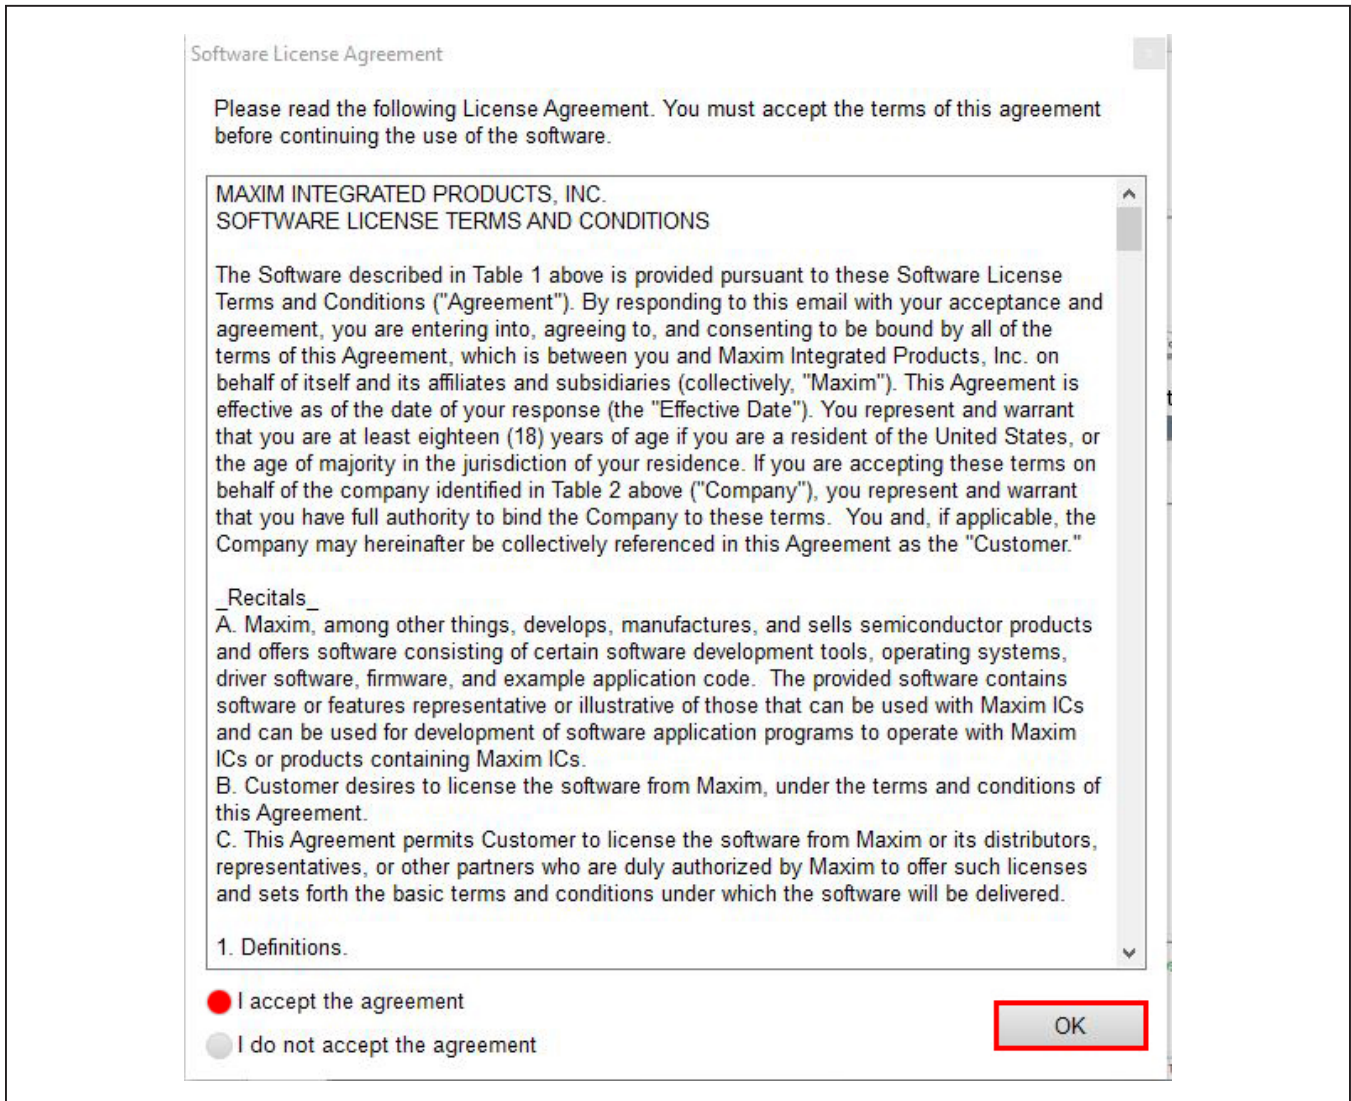

Figure 6. DS28E50 EV Kit Software License Agreement
- 6) The software license agreement will open. Read through the terms and select **I accept the agreement** and click **OK** to install the software (Figure 6).